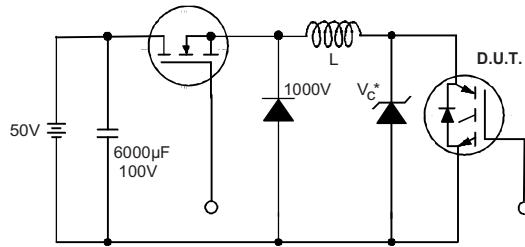

Fig. 19 - Clamped Inductive Load Test Circuit
(2) $V_{CC} = 80\% (V_{GES})$, $V_{GE} = 20\text{ V}$, $L = 10\text{ }\mu\text{H}$, $R_G = 50\text{ }\Omega$ (see fig.19)